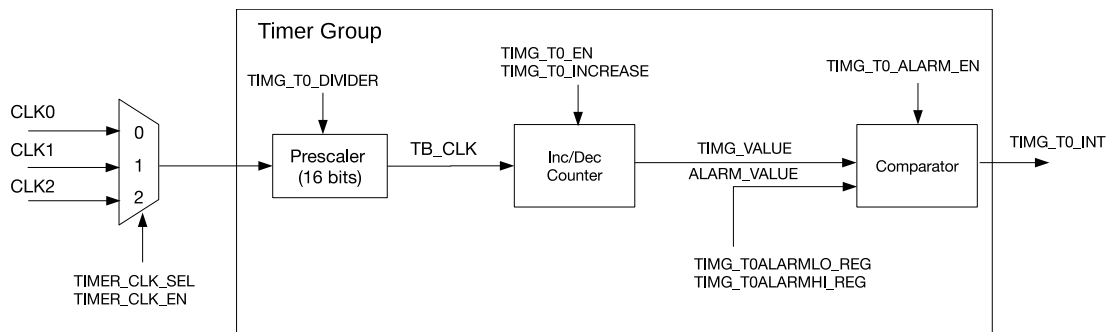

Figure 12.3-1. Timer Group Architecture
Figure 12.3-1 is a diagram of timer T0 in a timer group. T0 contains a 16-bit integer divider as a prescaler, a timer-based counter, and a comparator for alarm generation.
- The selected clock can be switched on by setting `PCR_TGO_TIMER_CLK_EN` field of the `PCR_TIMERGROUPO_TIMER_CLK_CONF_REG` register to 1 and switched off by setting it to 0. This field is indicated as `TIMER_CLK_EN` in Figure 12.3-1. The clock is then divided by a 16-bit prescaler to generate the time-base counter clock (TB_CLK) used by the time-base counter. The divisor of the prescaler can be configured through the `TIMG_T0_DIVIDER` field.